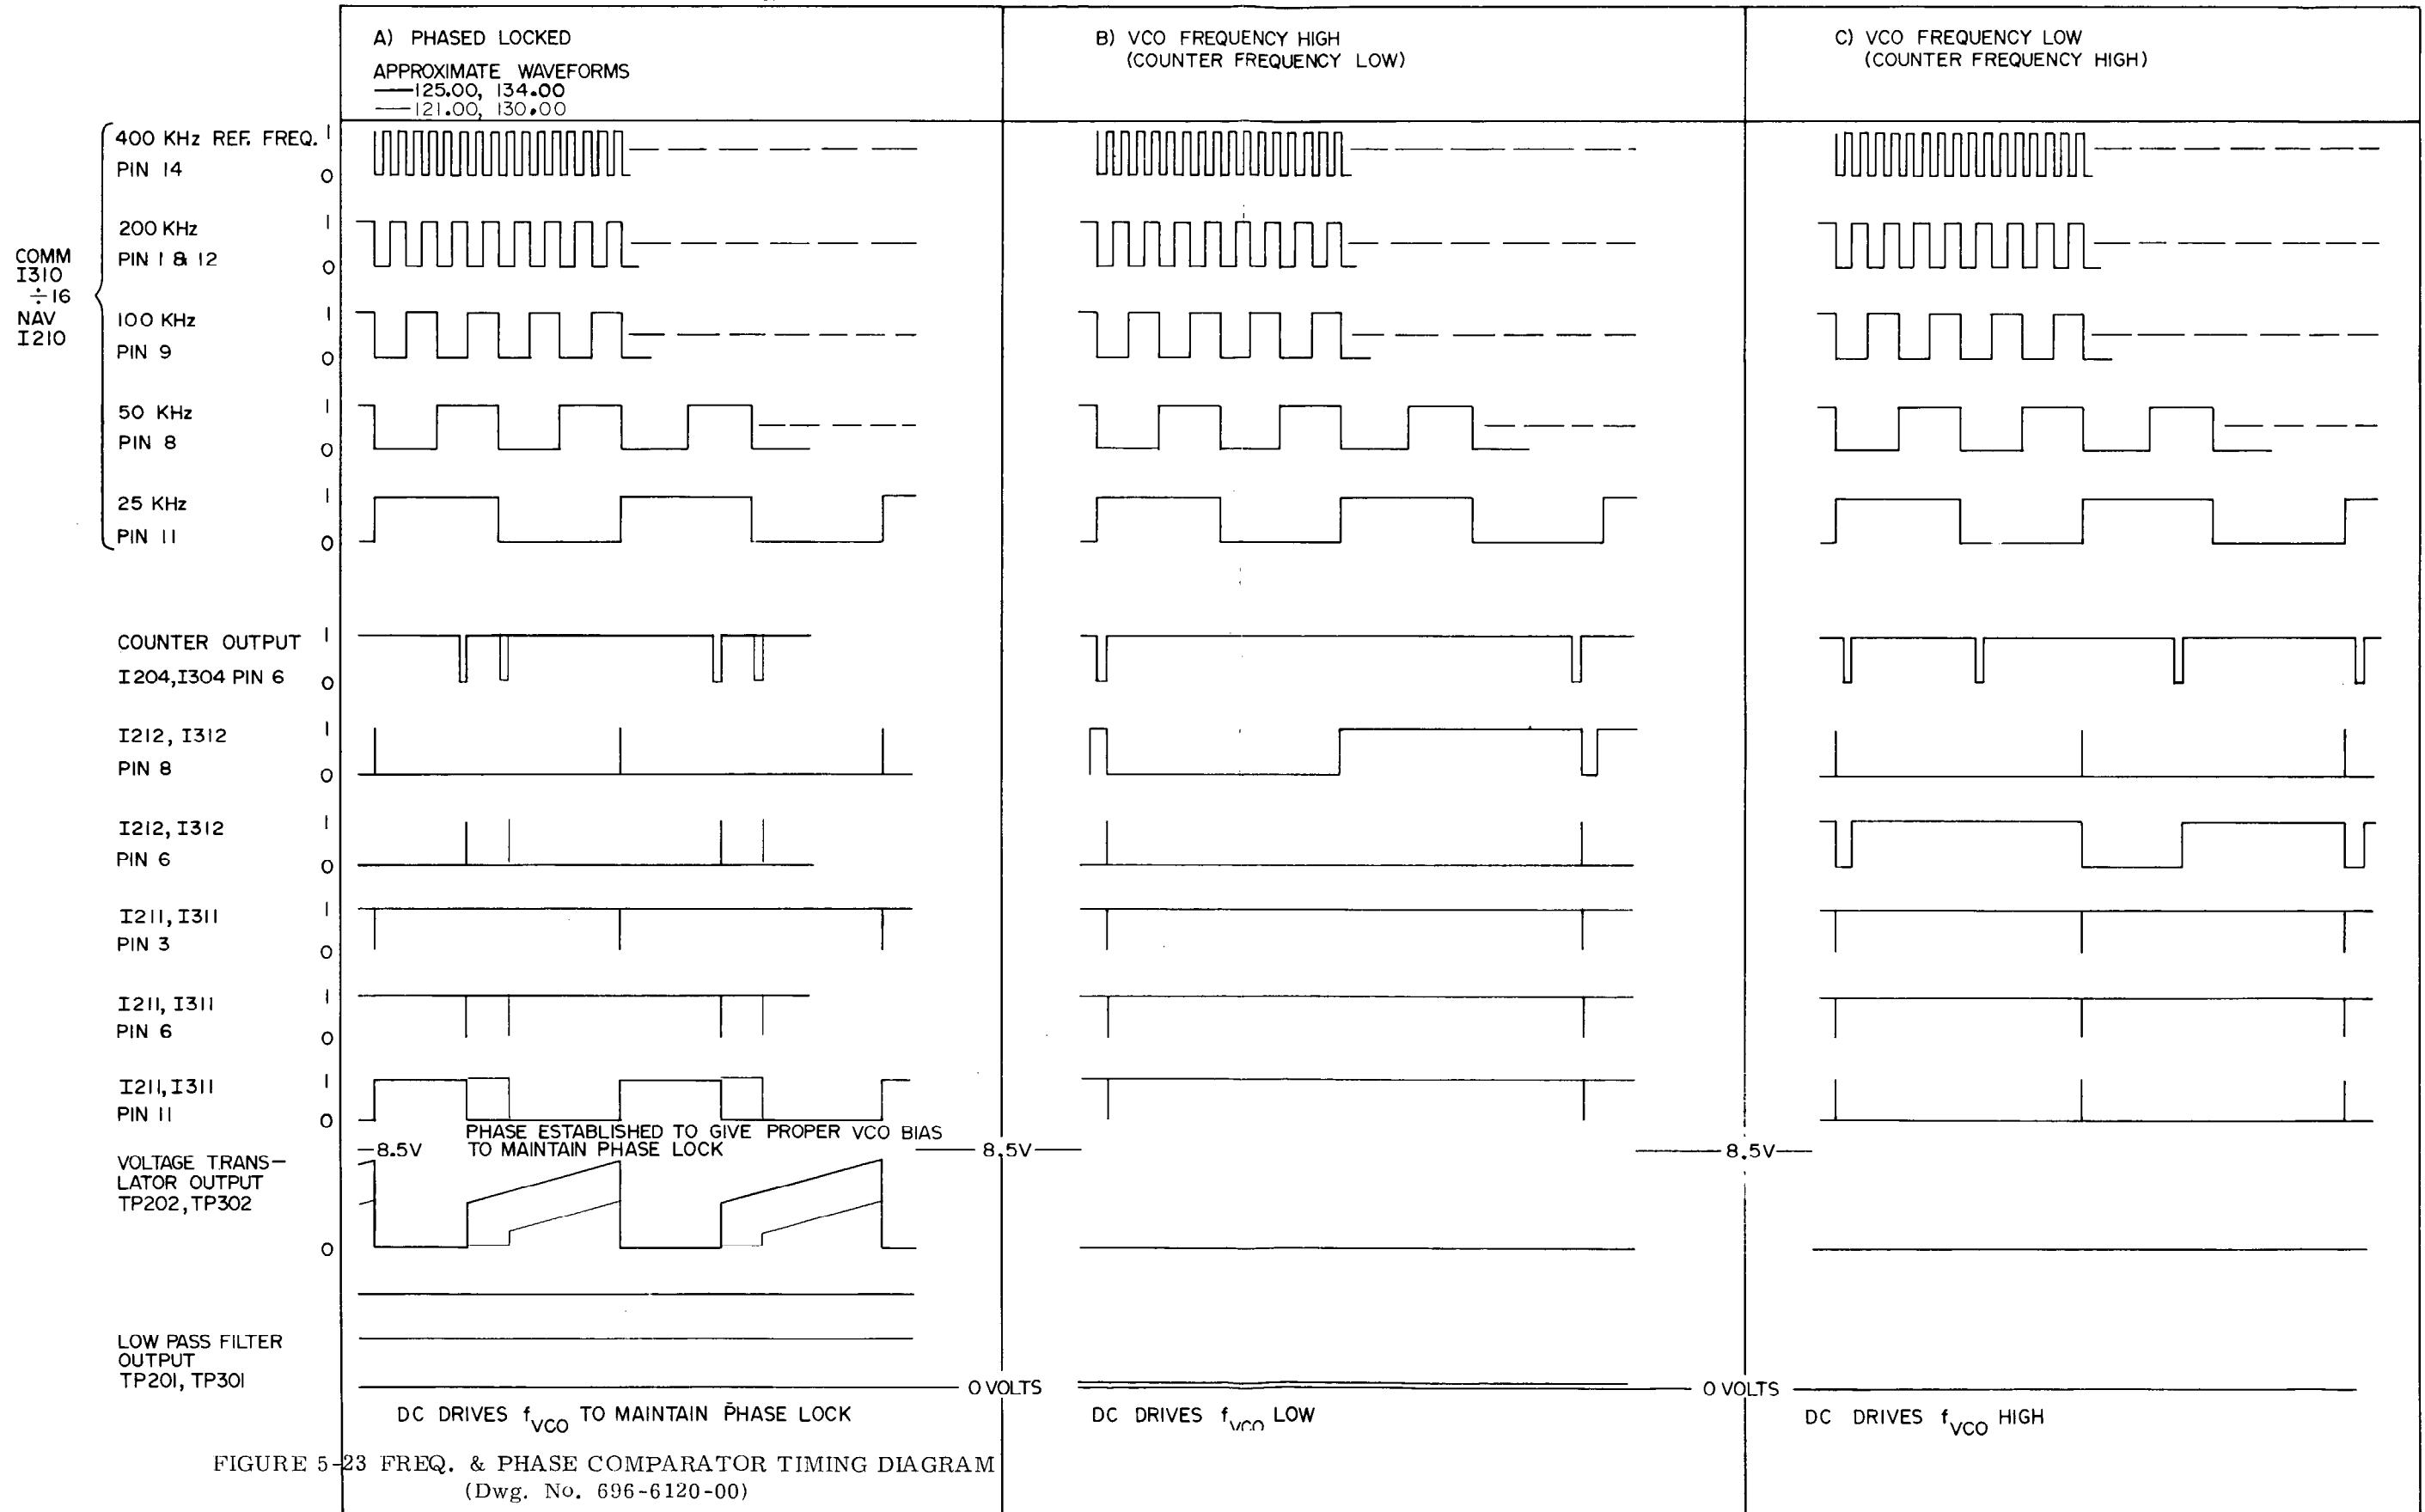

FIGURE 5-23 FREQ. & PHASE COMPARATOR TIMING DIAGRAM
The Phase and Frequency Comparator consists of I311 and I312. Reference information sources include the Phase and Frequency Comparator Timing Diagram (Figure 5-23) and the theory of section 4.2.
- C. Adjust the VCO bias voltage low (less than 6.50 volts 122.50) and look for a low output voltage (around .2 volts.) Refer to Figure 5-23 for the appropriate timing diagram.
- D. Adjust the VCO bias voltage high (greater than 6.50 volts) and look for a high voltage output voltage (near 4.5V). Refer to Figure 5-23 for the appropriate timing diagram.